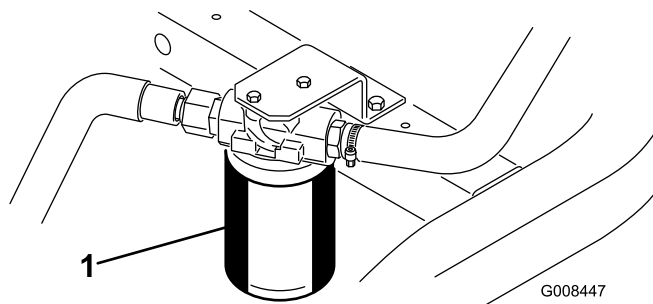

Figure 57
1. Clean the area around the filter mounting area (Figure 57). Place a drain pan under the filter and remove the filter.